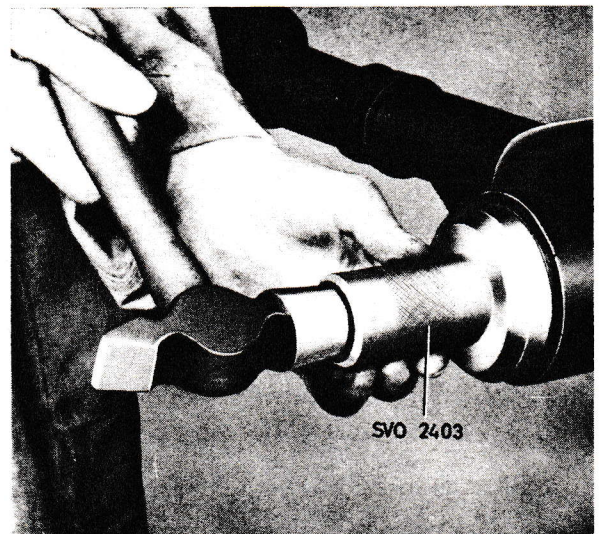

Fig. 7. Fitting the oil seal.
3. Fit a new taper washer and fit the new oil seal with tool SVO 2403, Fig. 7.